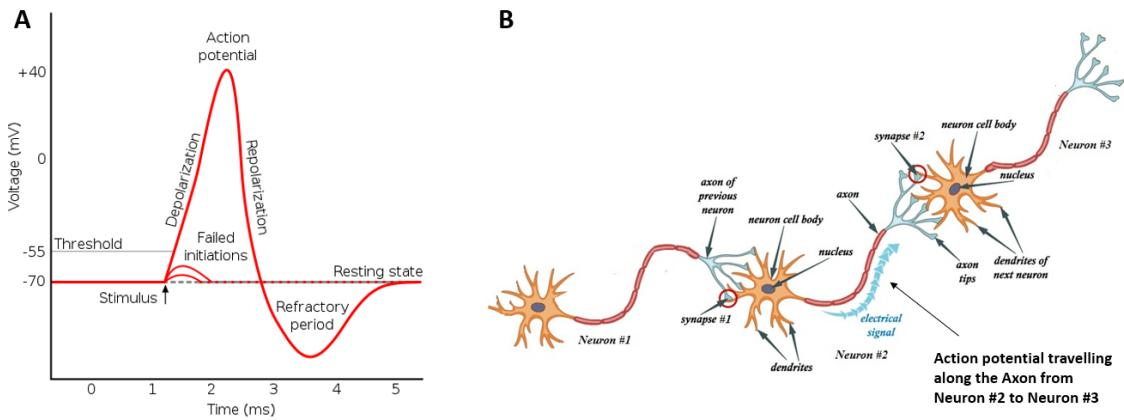

Figure 11: A) Action Potential Voltage change through time. B) Typical course of an action potential.
The neuron in its neutral state, i.e. when it's not receiving or sending any messages, has a negative potential compared to its surroundings. This potential is called the **resting potential** and it's about -70 mV. It is caused by different concentrations of ions in the intracellular and the extracellular space. The "messages" a neuron receives are sudden influx or ions from neighbouring cells. These are first processed at the synapse level and eventually transmitted to the Soma through the dendrites. These can either increase the neuron's resting potential, in which case they are *excitatory* input signals, or further decrease it and are *inhibitory* inputs. When a neuron's potential is increased so much that it becomes larger than its a specific **threshold voltage**, it sends out a message along its axon. This message is called an AP (AP) and its typical course is visualized in figure 11.
As can be seen from figure 11.A, once a neuron's potential crosses its threshold value, it experiences a large and fast increase of potential up to +40 mV compared to the extracellular space. This phase is called **depolarization** as the potential difference between the cell's intra- and extracellular space initially decreases. In the second phase, called the **repolarization**, the neuron's potential quickly decreases again. However, it doesn't stop at its initial resting potential but becomes even more negatively charged. This is called the hyperpolarization phase and it is denoted